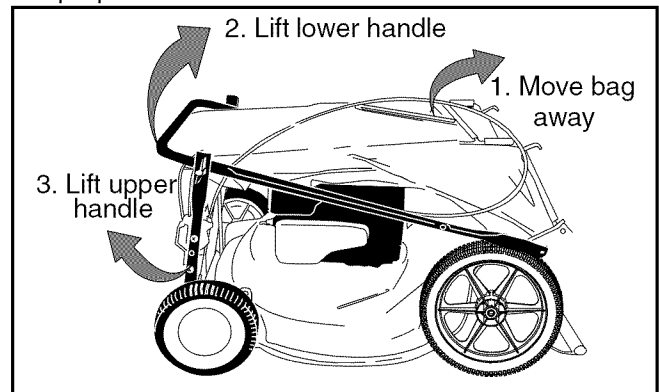
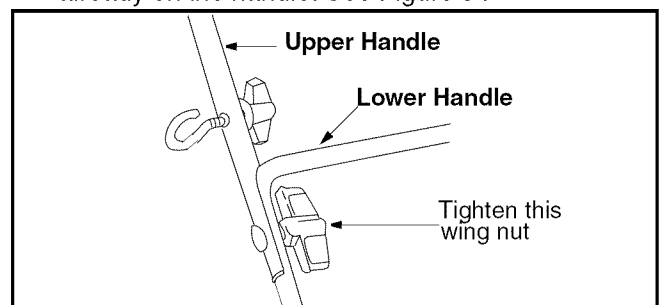

Figure 2
Figure 3
- Remove grass bag from the unit and set it out of the way. See Figure 2 (step 1).
- Raise the lower handle in the direction shown in Figure 2 (step 2) till it snaps into place.
- Raise the upper handle in the direction shown in Figure 2 (step 3). Tighten the wing nuts which are already on the handle. See Figure 3.